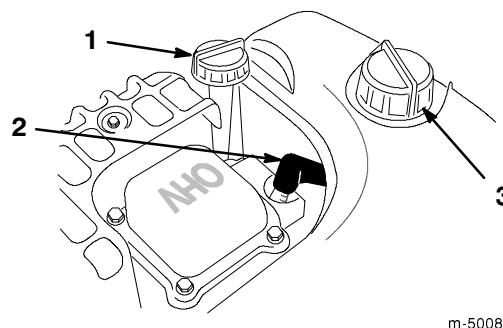

Figure 12
2. Clean the area around the dipstick (Fig. 12).
3. Remove the dipstick from the crankcase (Fig. 12).
1. Clean the area around the fuel tank cap (Fig. 12).